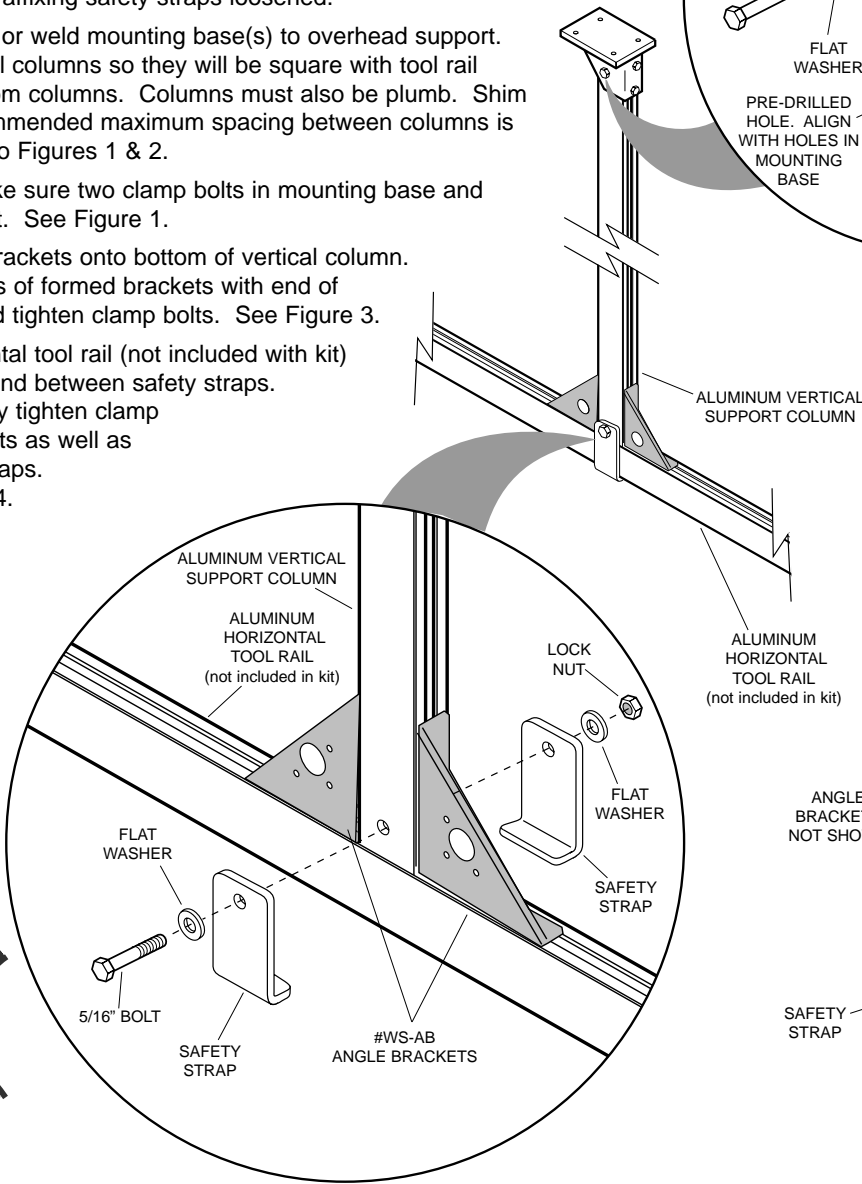

Figure 3
Step 3—Slide angle brackets onto bottom of vertical column. Align horizontal edges of formed brackets with end of aluminum column and tighten clamp bolts. See Figure 3.
Step 4— Slide horizontal tool rail (not included with kit) onto angle brackets and between safety straps. Position rail. Securely tighten clamp bolts on angle brackets as well as bolt holding safety straps. Refer to Figures 3 & 4.